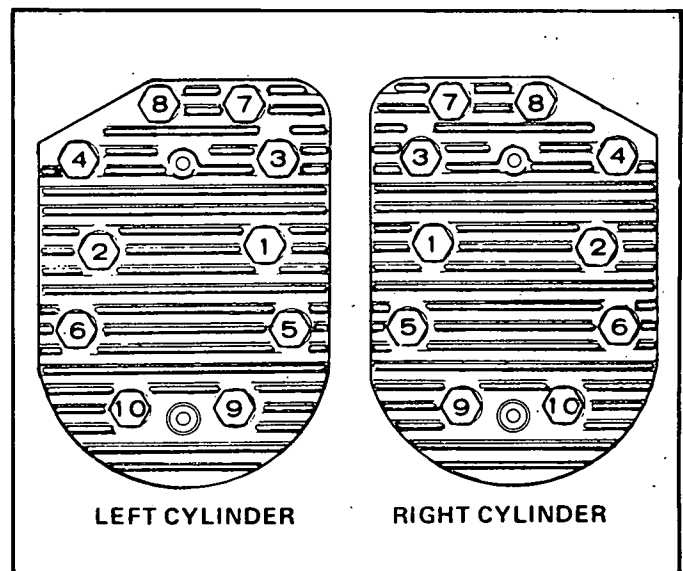

FIGURE 59. HEAD BOLT TIGHTENING SEQUENCE
4. Place heads in position and follow head torque tightening sequence shown in Figure 59. Start out tightening all bolts to 5 ft-lb, then 10 ft-lb, etc., until all bolts are torqued to 17-19 ft-lb.